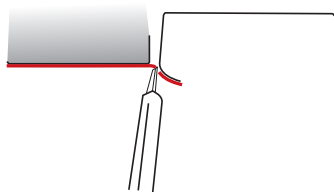

Figure 30
- › After the cut, 2 to 3 mm of the film (1 to 1½ in.) should be left over the edge of the vehicle parts. (FIG. 30)